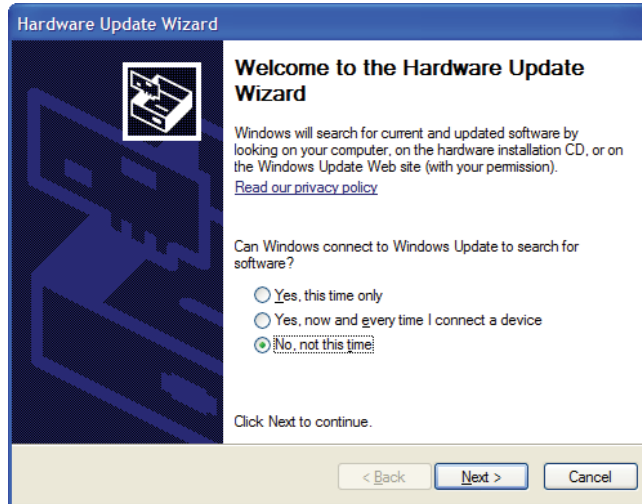

Figure 5: Found New Hardware Wizard 1
5. The “Found New Hardware Wizard” may ask if windows should connect to windows update to search for software as shown. Click “No, not this time” as shown in Figure 5, and then click “Next” to continue.